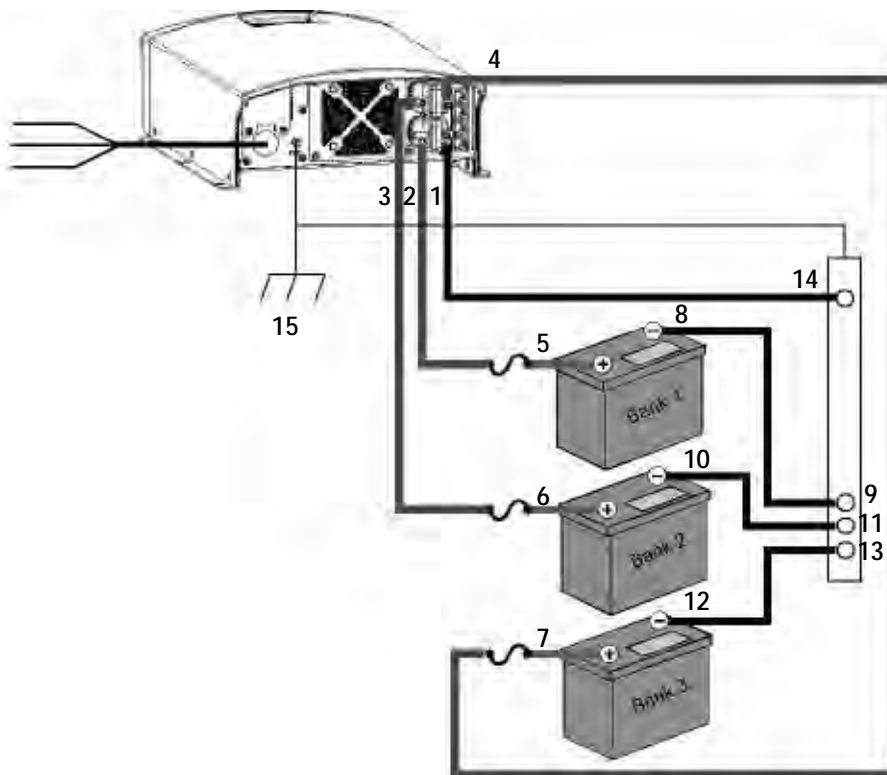

Figure 2-1 DC Wiring Connection Order
Figure 2-1 shows the connection order.
1. Connect the negative cable from the negative terminal on the battery (if you are using only one battery or bank), or the negative ground bar or bus (if you are using more than one battery or bank), to the negative DC terminal on the XC Series (Figure 2-1). Use a flatwasher, a lockwasher and a nut (5 included in the installation kit) to secure the connection.
2. Connect each positive cable to the correct positive DC terminal on the XC Series (Figure 2-1). Use a flatwasher, a lockwasher and a nut (5 included in the installation kit) to secure the connection.